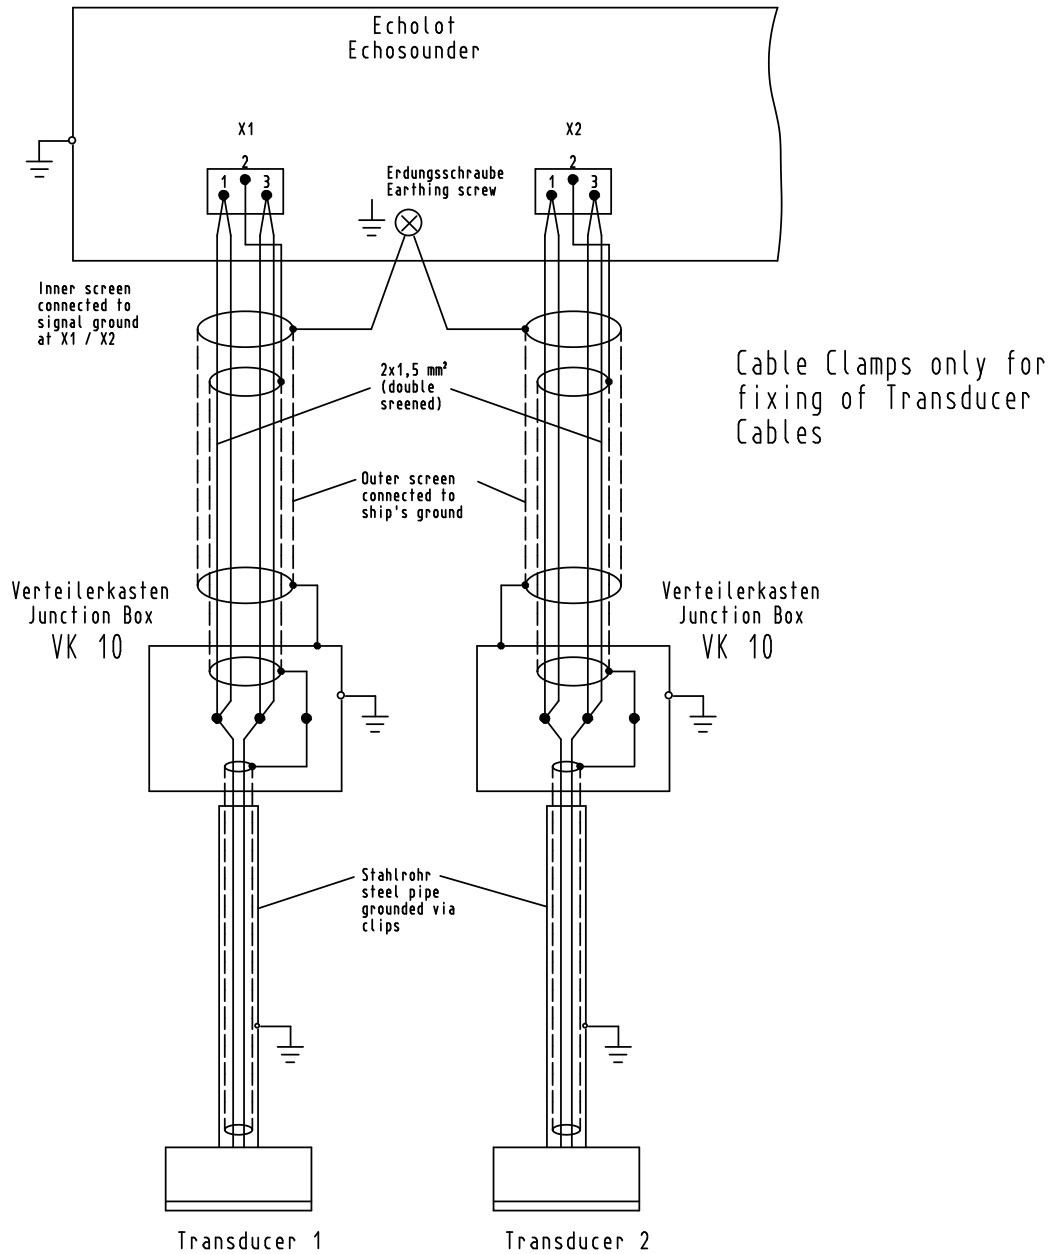

Figure 5-1 Instruction for transducer - cable connection
- a double-screened cable is used as transducer cable, the inner screen is one-side connected to the echo sounder's ground, the outer screen is connected to the ship's ground on both sides ( see Figure 5-1).